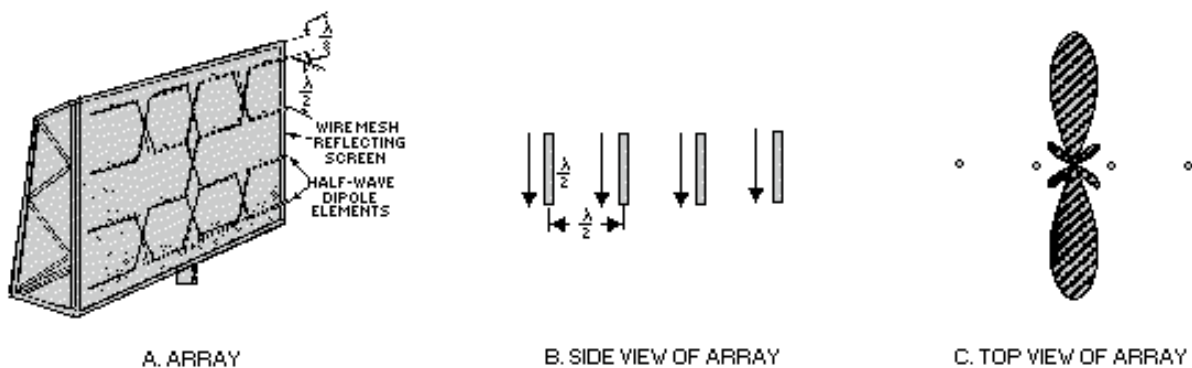
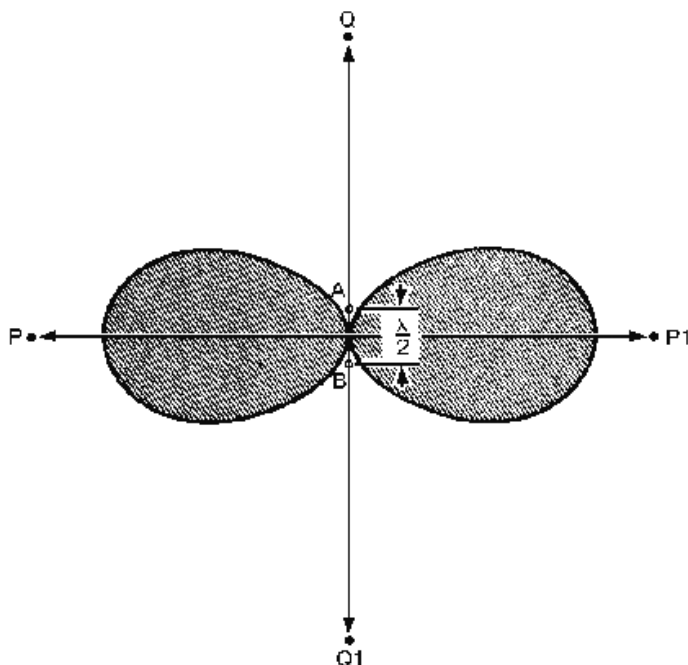

Figure 4-26.—Typical broadside array.
Figure 4-27.—Parallel elements in phase.
A broadside array is shown in figure 4-26, view A. Physically, it looks somewhat like a ladder. When the array and the elements in it are polarized horizontally, it looks like an upright ladder. When the array is polarized vertically, it looks like a ladder lying on one side (view B). View C is an illustration of the radiation pattern of a broadside array. Horizontally polarized arrays using more than two elements are not common. This is because the requirement that the bottom of the array be a significant distance above the earth presents construction problems. Compared with collinear arrays, broadside arrays tune sharply, but lose efficiency rapidly when not operated on the frequencies for which they are designed.
RADIATION PATTERN.—Figure 4-27 shows an end view of two parallel half-wave antennas (A and B) operating in the same phase and located $1/2$ wavelength apart. At a point (P) far removed from the antennas, the antennas appear as a single point. Energy radiating toward P from antenna A starts out in phase with the energy radiating from antenna B in the same direction. Propagation from each antenna travels over the same distance to point P, arriving there in phase. The antennas reinforce each other in this direction, making a strong signal available at P. Field strength measured at P is greater than it would be if the total power supplied to both antennas had been fed to a single dipole. Radiation toward point P1 is built up in the same manner.
When more than two elements are used in a broadside arrangement, they are all parallel and in the same plane, as shown in figure 4-26, view B. Current phase, indicated by the arrows, must be the same for all elements. The radiation pattern shown in figure 4-26, view C, is always bi-directional. This pattern is sharper than the one shown in figure 4-27 because of the additional two elements. Directivity and gain depend on the number of elements and the spacing between them.